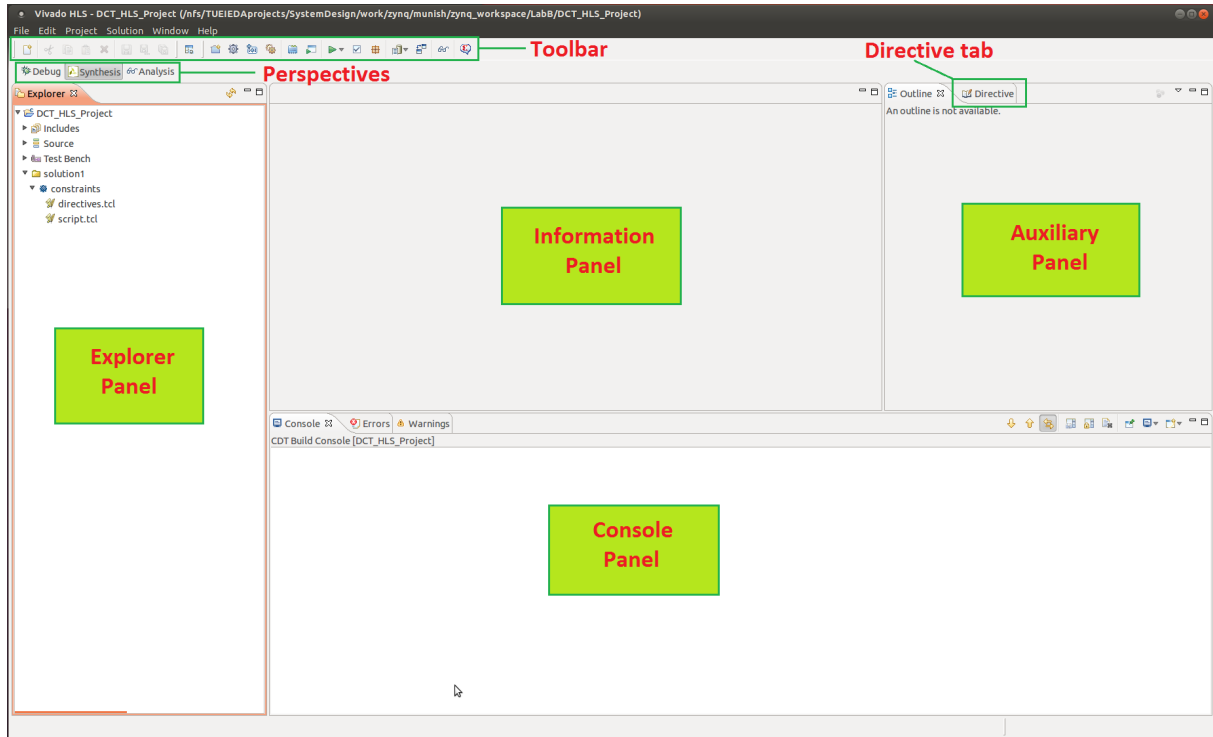

Figure 3.2.: Vivado_HLS - Description of various panels.
7. A new project *DCT_HLS_Project* will be created in the Vivado_HLS with all the files for sources and test benches included (Figure 3.2).